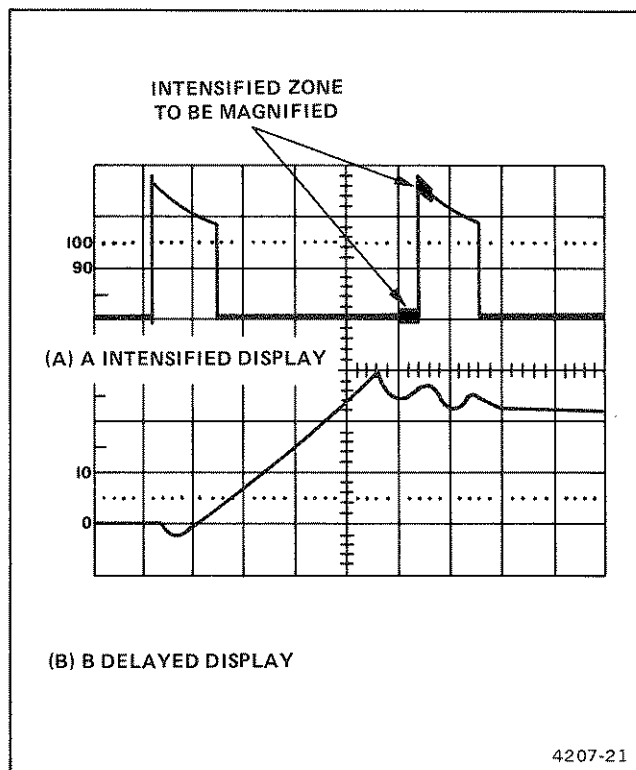

Fig. 4-5. Delayed-sweep magnification.
6. Adjust the B DELAY TIME POSITION control to position the start of the intensified zone to the portion of the display to be magnified (see Figure 4-5).
7. Set the B SEC/DIV switch to a setting which intensifies the full portion of the A trace to be magnified. The intensified zone will be displayed as the B trace (see Figure 4-5). The B HORIZONTAL MODE May also be used to magnify the intensified portion of the A Sweep.